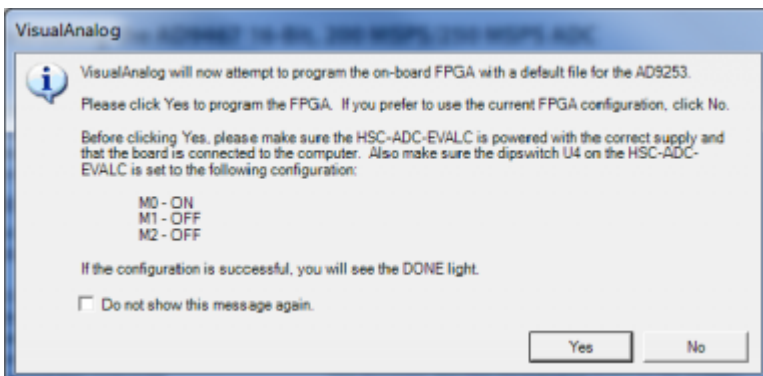

Figure 4. VisualAnalog Default Configuration Message
- After the template is selected, a message might appear asking if the default configuration can be used to program the FPGA (see Figure 4). If this message appears, click **Yes**, and the window closes.